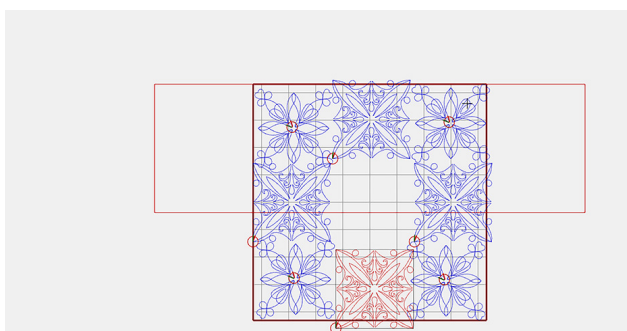

Fig. 73
10. Place Design 2 in block areas 2, 4, 6, and 8 (Fig. 73).